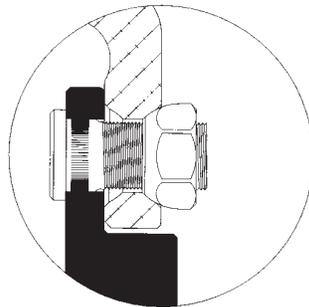

Figure 15
- ◆ For 1½" -16 studs, use standard heavy truck steel disc wheel front or outer nuts. (See Figure 15.) If you are making a changeover from steel wheels, longer studs may be necessary to ensure that the stud is at least flush or extends through the nut.
- ◆ The outer cap nuts used on aluminum wheels are the same as shown in Figure 15 on page 46 ($1\frac{1}{8}$ " - 16 thread).